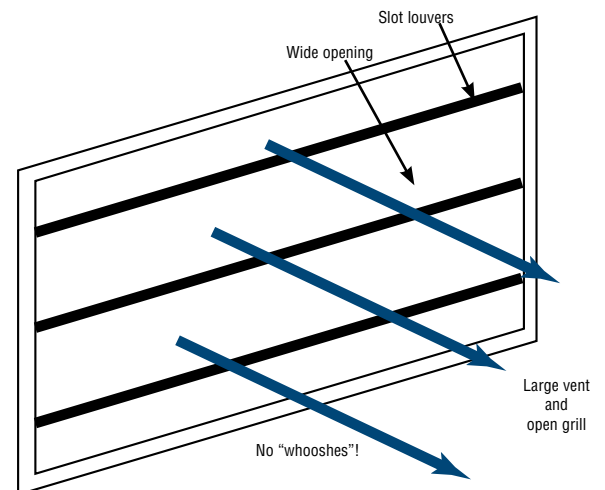

FIGURE 28
- Remember, music rooms need nearly twice the rate of fresh-air exchange as a classroom of equal size due to the physical activity of making music. As a result, vent openings need to be large with open grillwork (figure 28). Work with your building engineers to solve the problem of small vents and heavily screened grills.